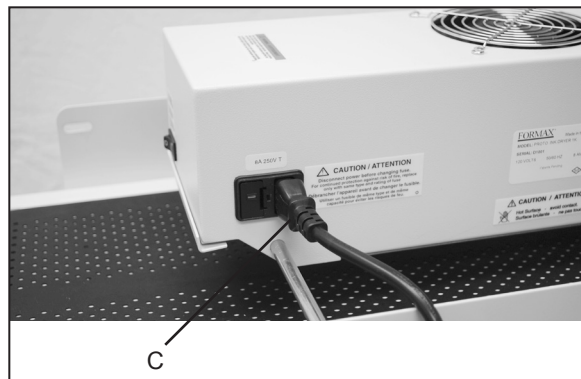
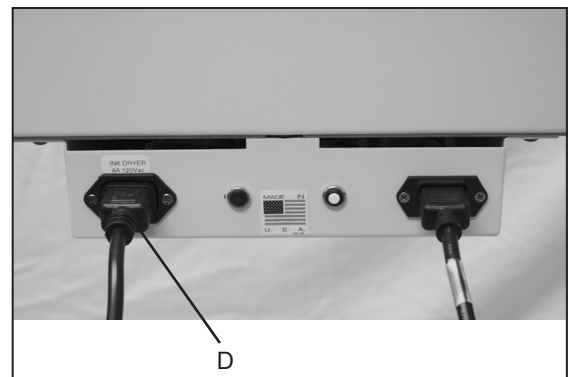

Fig 15a
Fig 15b
4. Connect the dryer's power cord to the receptacle on the back of the dryer (Fig 15a item C) and on the back of the control panel module (Fig 15b item D). **Note:** The dryer receptacle is marked on the back of the control panel module.